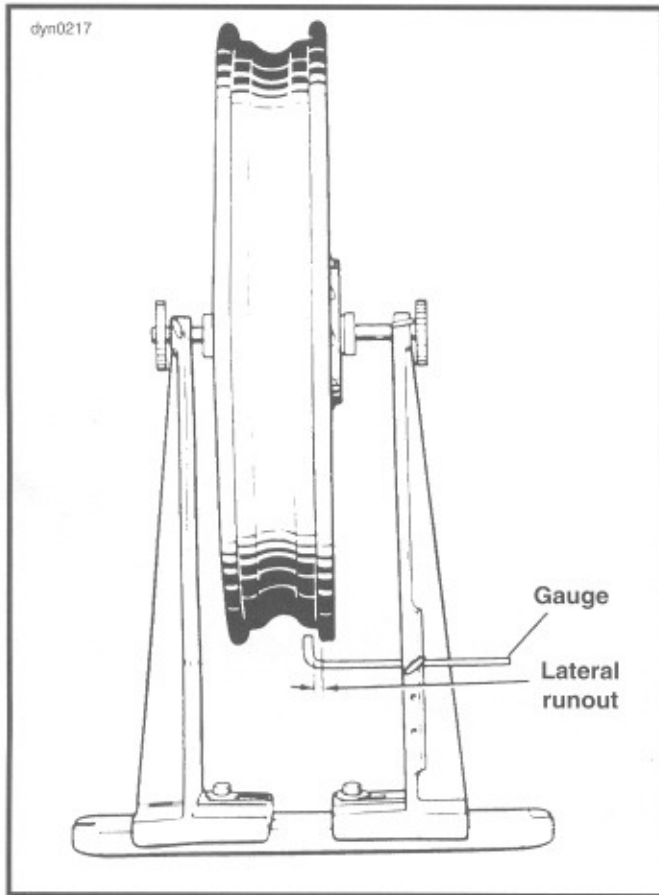

Figure 2-31. Checking Cast Rim Lateral Runout.
1. See Figure 2-31. Install truing arbor in wheel hub and place wheel in WHEEL TRUING STAND (Part No. HD-99500-80). Tighten arbor nuts so hub will turn on its bearings. To check rim lateral runout, place a gauge rod or dial indicator near the rim bead. If lateral runout exceeds 0.040 in. (1.02 mm), replace the wheel.